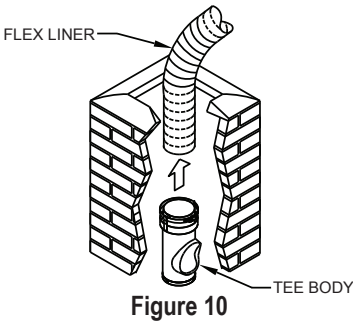

Figure 10
**Step 2.** If the masonry has an offset, pull the Flex down as described in **Step 4** of the previous section so the end is even with the opening in the chimney wall. Disconnect the Flex Puller. Attach the Tee Cap to the bottom of the Tee (if not already attached), remove the Tee Branch, and attach the Tee to the Flex Liner (**Figure 10**).